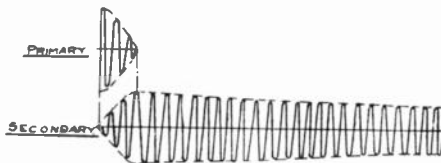

Fig. 1.
The main feature of the system is based on the discovery of the "quenched" spark, made several years ago by a German, but little attention was paid to this invention. It had been demonstrated that when the quenched spark was used, the oscillations instantly damp out the primary spark, Fig. 1, and therefore excite the free oscillations in the secondary circuit. This phenomenon is known in German as "Stosserregung," meaning exciting by shock. In consequence of this rapid damping it is possible to employ an alternator having a frequency of 1,000 to 2,000 to create a corresponding number of primary discharge sparks per second, without producing any true arc discharge. The rapid cooling of the discharge surfaces entirely prevents it. The rapid succession of highly damped primary sparks creates then an equally rapid succession of very feebly damped trains of oscillations in the secondary circuit having a very large mean-square
If you are in doubt as to whether any condenser is short circuited you can readily determine by taking the buzzer and connecting it to a dry cell in manner shown in Fig. 1; that is, connect the buzzer to one side of the cell and touch the other two terminals, T and T2, to the condenser terminals, A and B. If the condenser is short circuited the buzzer will operate, otherwise it will not.
M.E. -FIG 1-